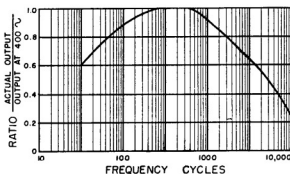

Figure 4.11 - Typical Receiver Fidelity Curve
a. Fidelity is a quality or reproduction and is determined by a combination of two factors - electrical and tonal. The ear is the measuring stick for the tonal quality. The Model 288X may be used to electrically check fidelity. The Model 288X is used to generate audio frequency output, 0-15,000 kc. With the use of an output indicator, a fidelity characteristic curve, as shown in Figure 4.11, may be obtained.